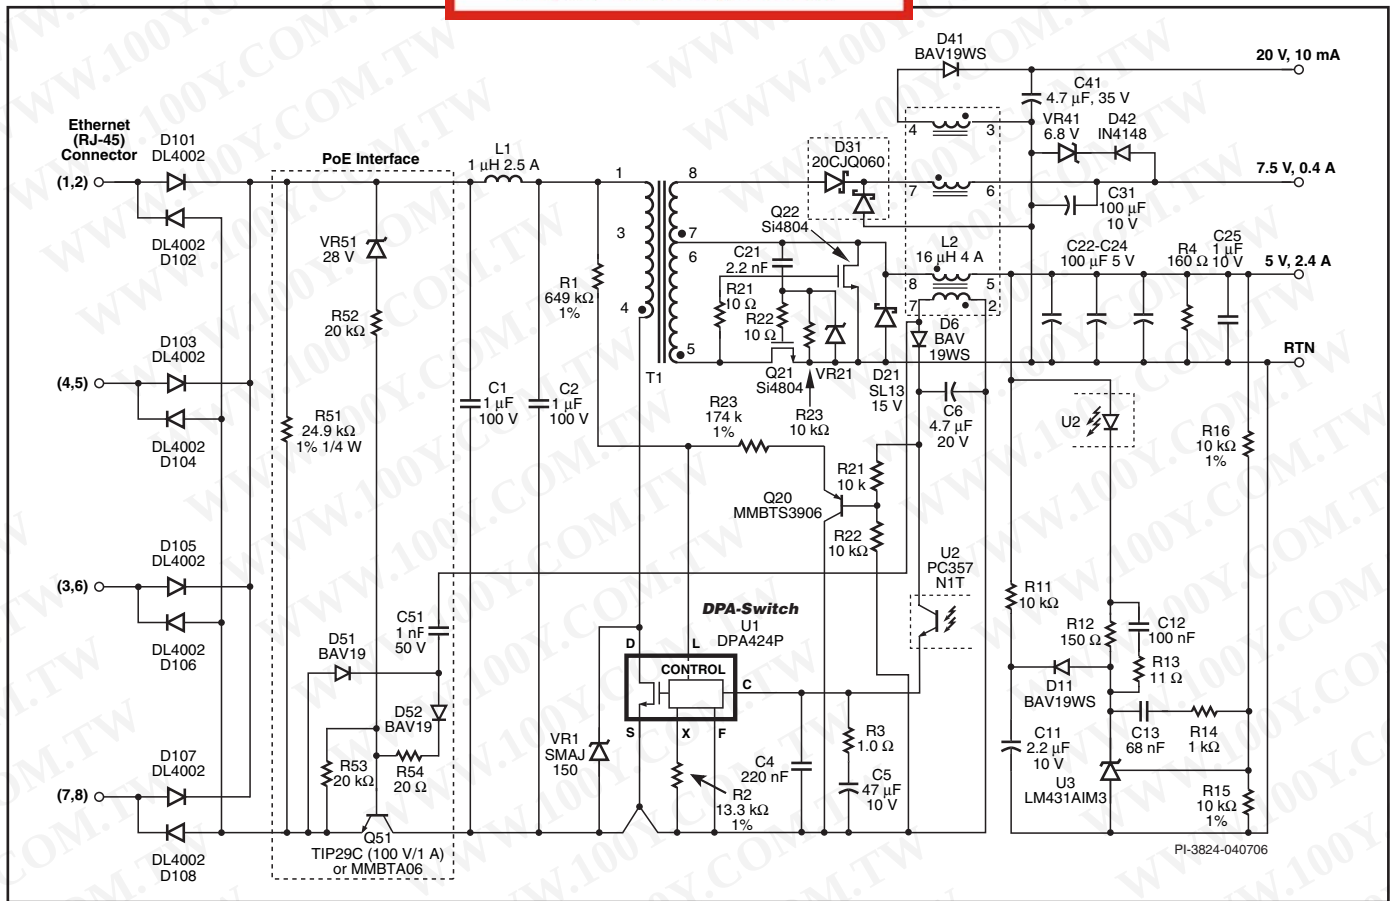

Figure 27. PoE Interface Circuit Using a Bipolar Transistor Pass-Switch and DPA424P
controlled pass-switch. By adding this circuitry to the front end of a DPA converter, a low cost and low component count PoE powered device (PD) power supply can be implemented. Figure 27 shows a typical PD solution.
When input voltage is applied to the PD, it must present the correct discovery signature impedance in the voltage range of 2.5 VDC to 10 VDC. This impedance is provided by R51 in Figure 27.
In the third phase, the bipolar pass-switch (Q51 in Figure 27) connects the input voltage to the power supply at voltages above approximately 30 VDC (28 V+VR52). Zener diode VR51 conducts, driving the current through resistor R52 to the base of Q51. Resistor R53 prevents turn-on under other conditions. Once the Power supply has started, components D51, D52, C51 and R54 enhance the base-current drive by coupling